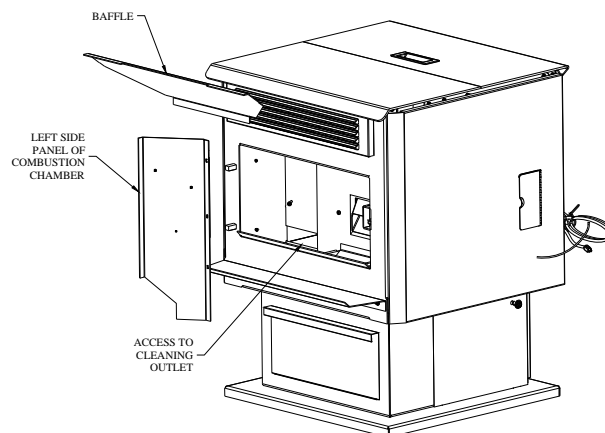

FIGURE 22
- Chamber walls:** Periodically, you must vacuum the ashes that may have accumulated on the main walls of the combustion chamber. **START BY REMOVING THE DECORATIVE MASONRY-LIKE PANELS, WHICH ARE SIMPLY HELD BY SCREWS.** Scrape off ashes. Use a vacuum is necessary. There is also a cleaning outlet located behind the left side panel of the combustion chamber. Remove this panel using a screw driver. You will notice a small rectangular cleaning outlet. Inspect behind this outlet (see figure 22) Insert the vacuum tip through the cleaning outlet and clean thoroughly. **REPEAT THIS OPERATION AT LEAST ONCE PER TON OF PELLETS BURNED UNTIL YOU ARE FAMILIAR WITH HOW ASHES ACCUMULATE WITH YOUR OPERATING PRACTICES.**